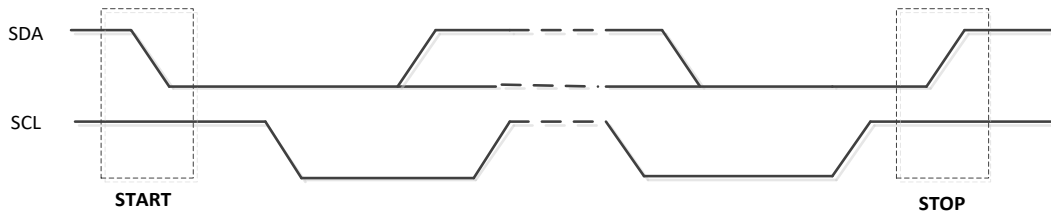

Figure 18-4 START and STOP conditions
All transactions begin with a START (S) and terminated by a STOP (P). A high to low transition on the SDA line while SCL is high defines a START condition. A low to high transition on the SDA line while SCL is high defines a STOP condition (see Figure 18-4).